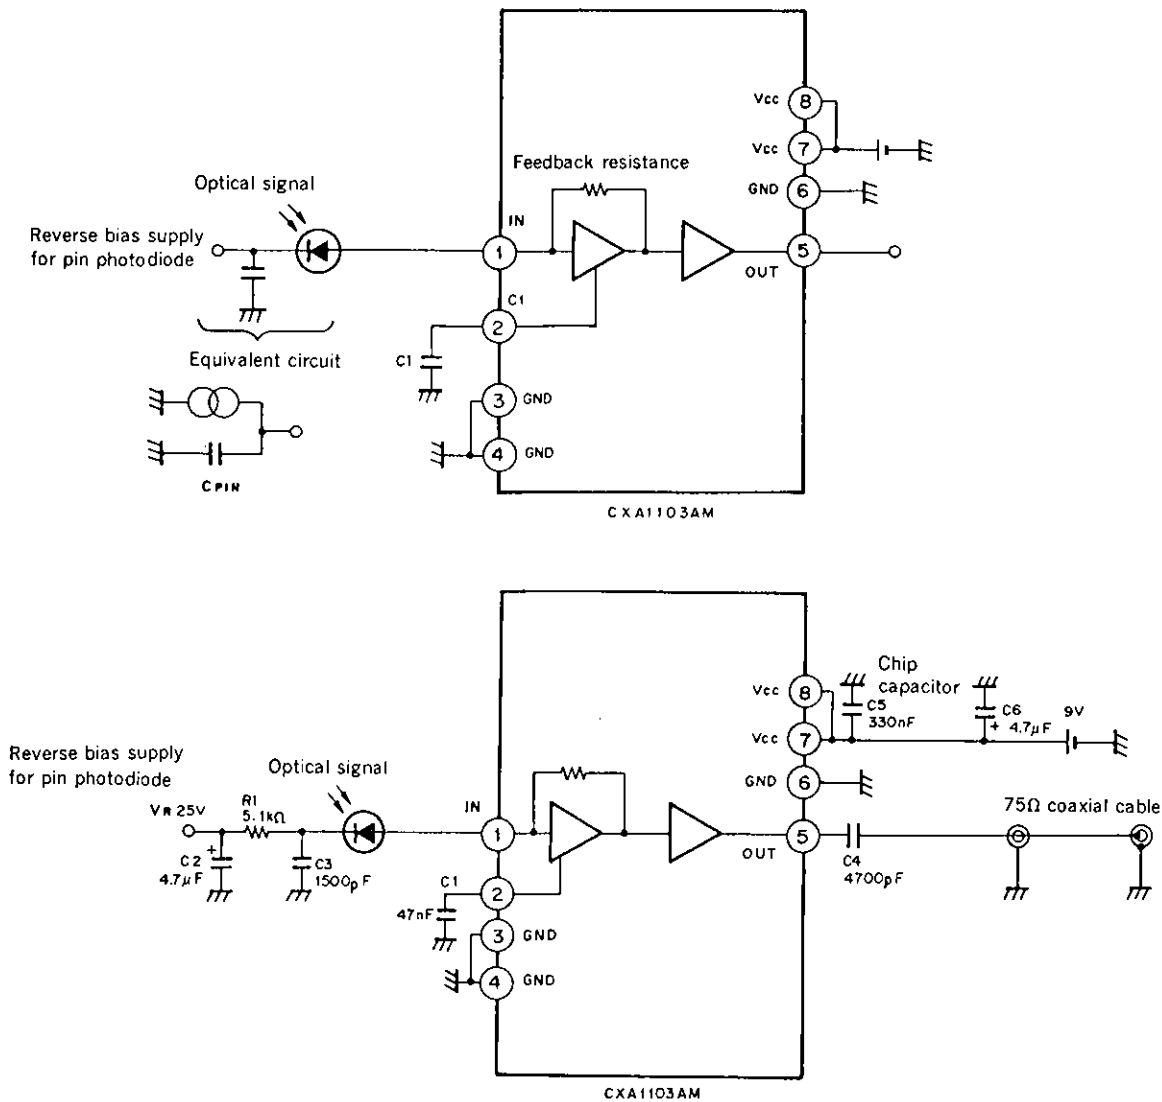
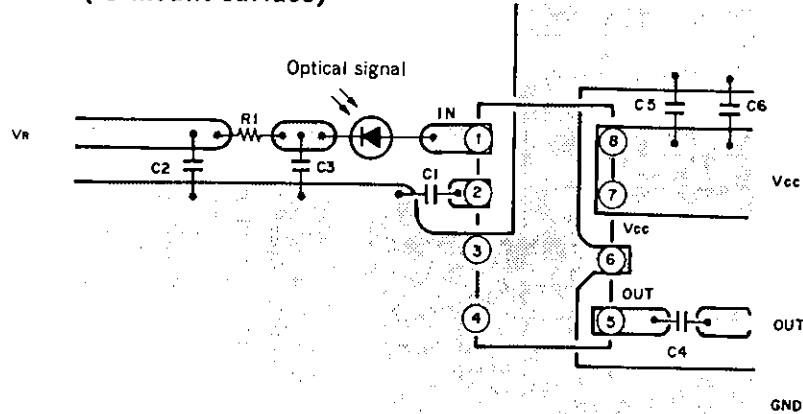

Fig. 2
Fig. 3
Handling (See Application Circuit Fig.2 and Print Circuit Board Pattern Fig. 3)
- As seen in Fig. 3, mount the bypass capacitor as short as possible between pins 7,8 (Vcc) and pins 3,4,6 (GND).